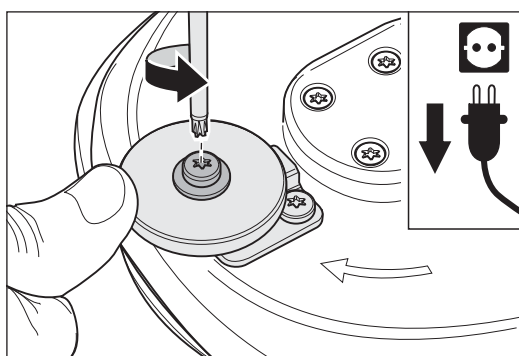

Fig. 69 Undo the screw in the middle of the wall-protecting roller.
- 2 Use the universal spanner to undo the screw in the middle of the wall-protecting roller (fig. 69).